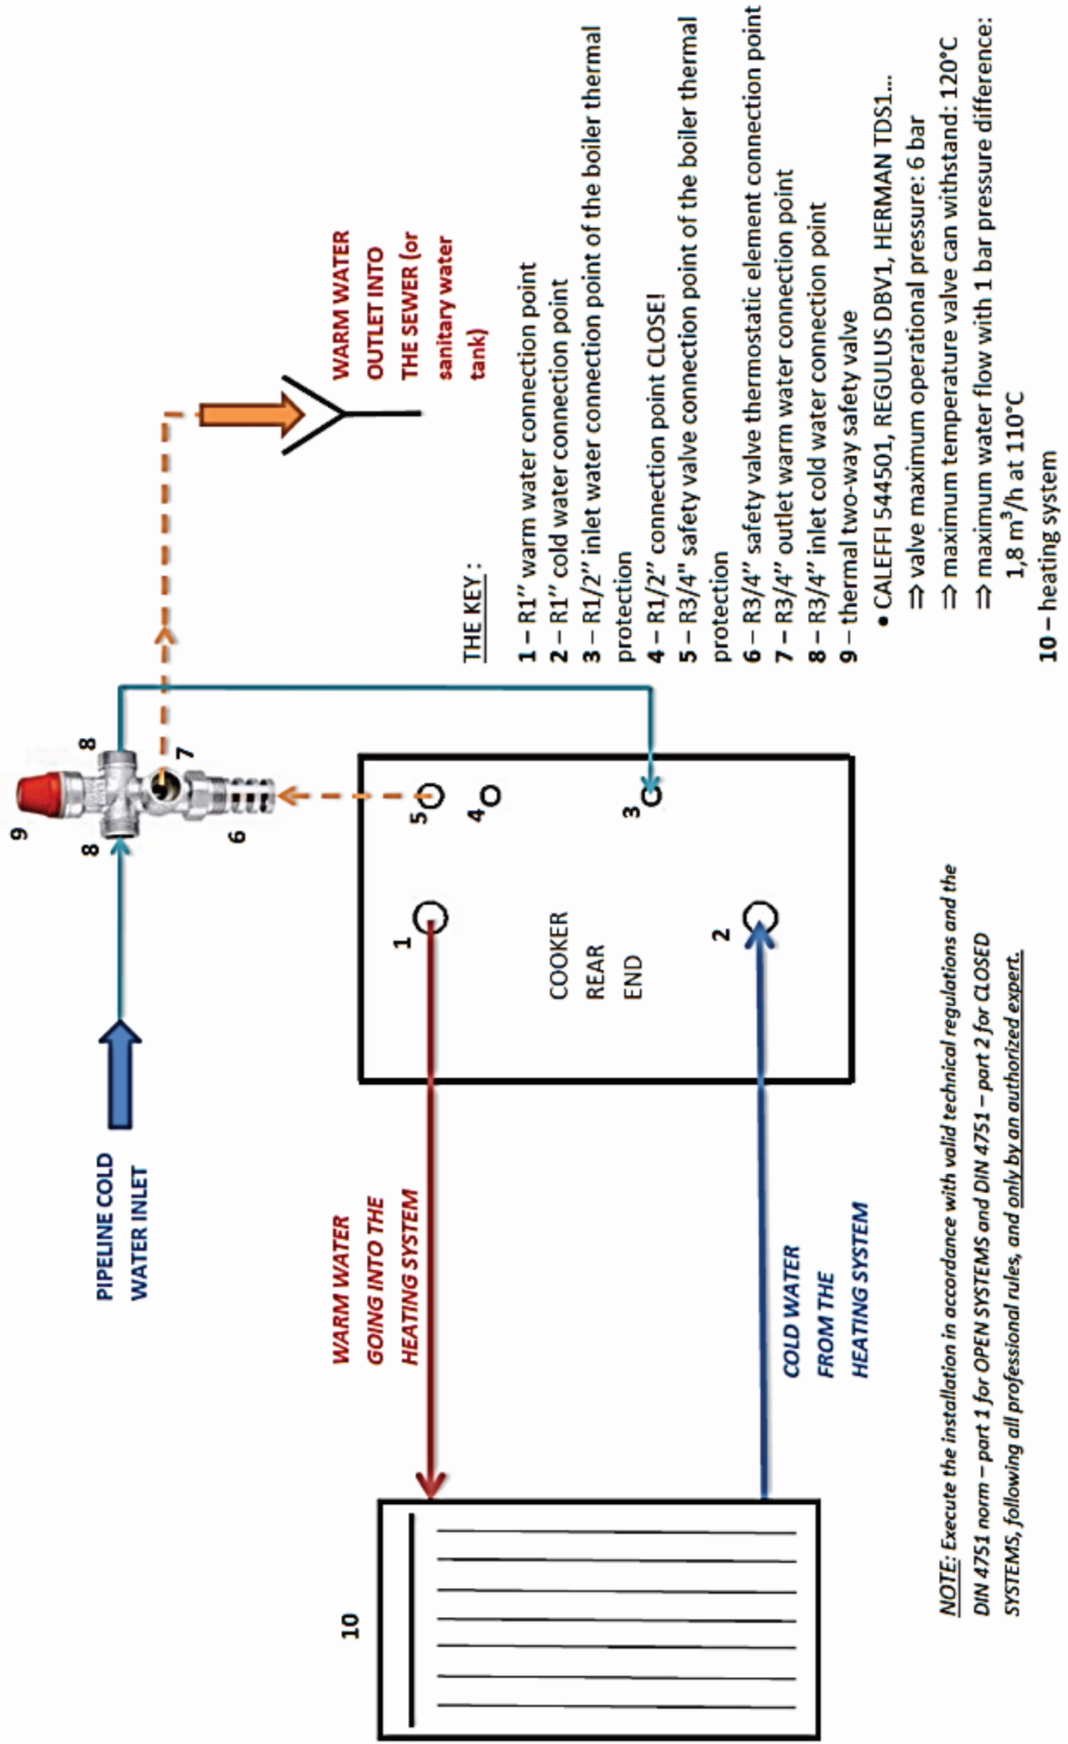

Figure 5
When connecting the cooker to the central heating system it is **necessary to install the safety thermal valve**. It shall be installed on the **cooker rear side to R3/4" connection point – inner thread** ⇒ see *Figures 5 and 6*.
- R3/4" (7) - *figure 5*,
The **sensor (probe) of the safety thermal valve** is connected to the **connection point (5)** ⇒ broken line in *Figures 5 and 6*.